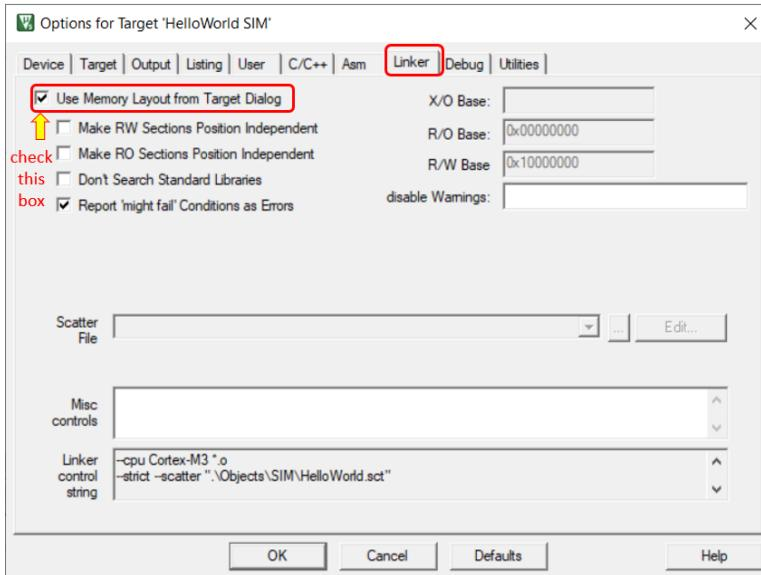

Figure 8.14: Keil IDE: Target Options Linker Tab Configuration
- Configure the Linker tab as shown in Figure 8.14. This is to instruct the linker to use the memory layout from the Target tab rather than default memory layout.